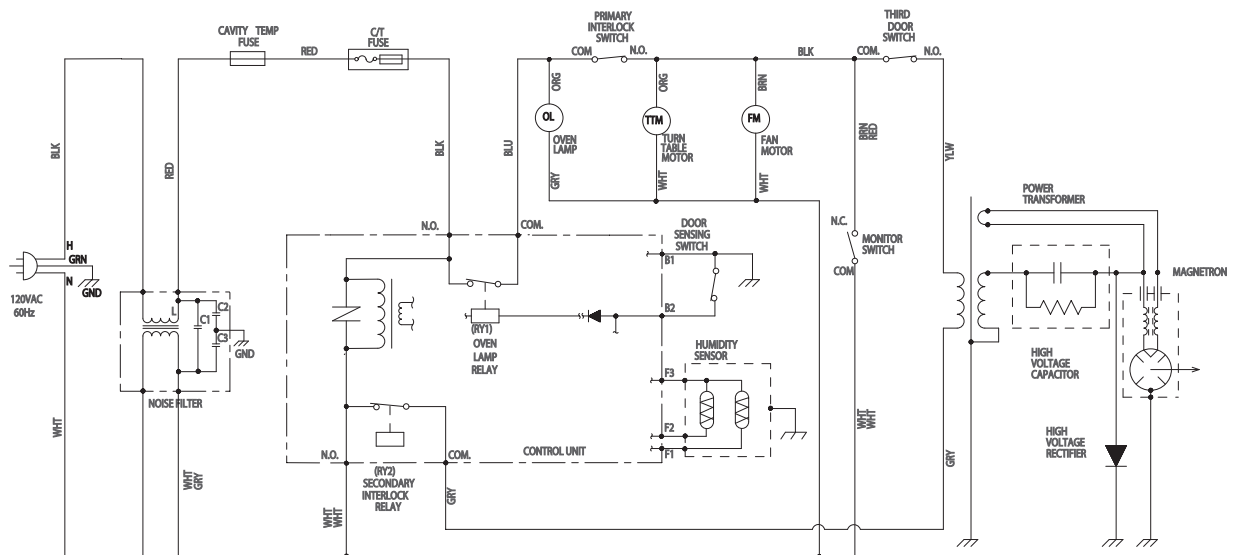

Figure O-2 Oven Schematic - Cooking Condition
1. The contacts of relays are closed and components connected to the relays are turned on as follows. (For details, refer to Figure O-2)